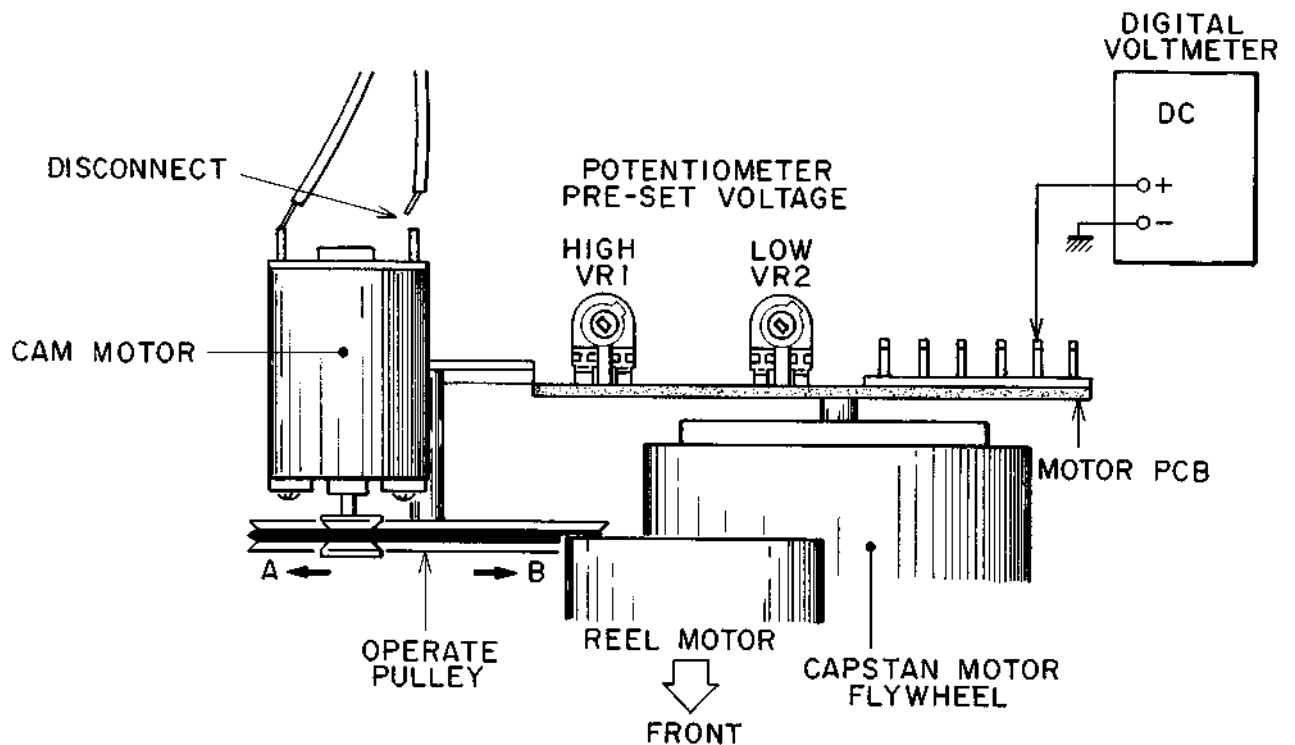

Fig. 8-1
- b. Connect the digital voltmeter as shown in Fig. 8-1.
- c. With power ON, adjust VR2 so that the voltage reading will be 0.78V (DC).